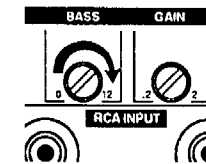

Figure 8
5. If, you desire more BASS output, adjust the "BASS EQ" level "clockwise". The adjustment range is from "0" to "+12 dB". We recommend using as little Bass EQ as possible. Remember boosting +12 dB at 45 Hz requires the amplifier to work 16 times harder! (see Figure 8.)